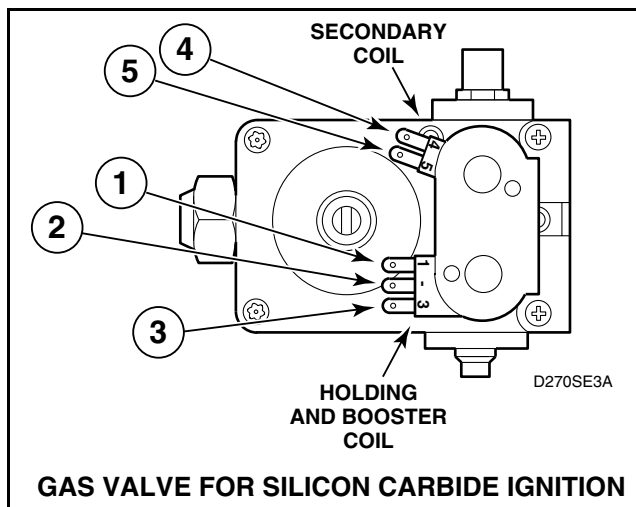

Figure 49
- Remove valve wire harness disconnect block from the holding and booster coil. Refer to *Figure 49*.
- Set test meter to read Ohms and put meter probes to terminals shown in *Figure 49*, and in the following chart.